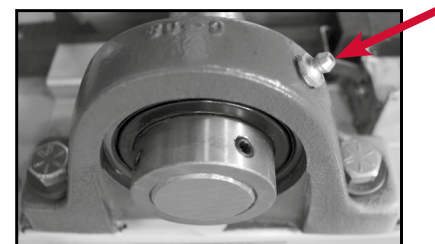

FIGURE 15. Pump grease into two rotor bearing grease points, one on each side of the rotor.
- 1) Pump grease into the two rotor bearing grease fittings using a high quality NLGI No. 2 grease (See **FIGURE 15**).